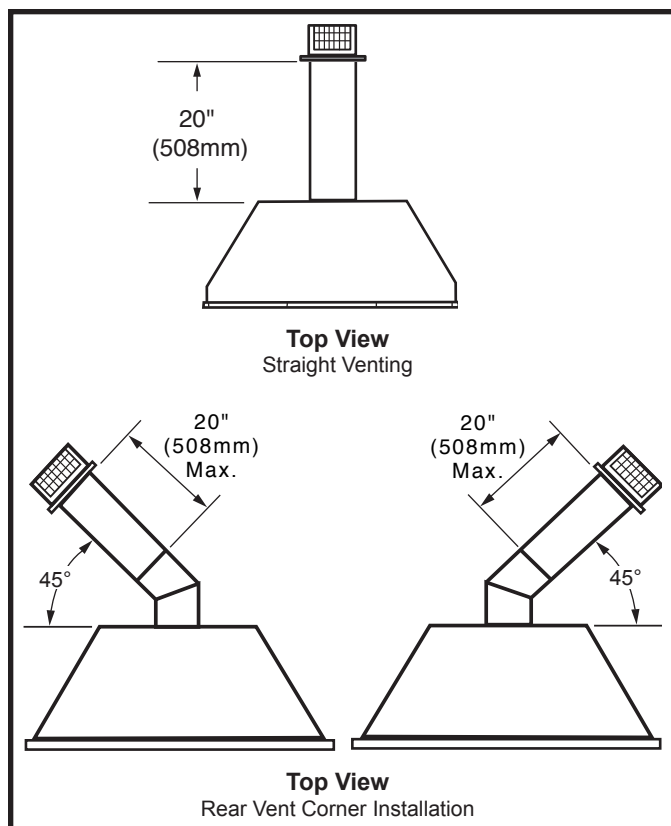

Fig. 16 Rear vent applications, one 45° elbow.
- The maximum horizontal distance between the rear of the appliance (or end of the transition elbow in a corner application) and the outside face of the rear wall is 20" (508mm). (Fig. 16)